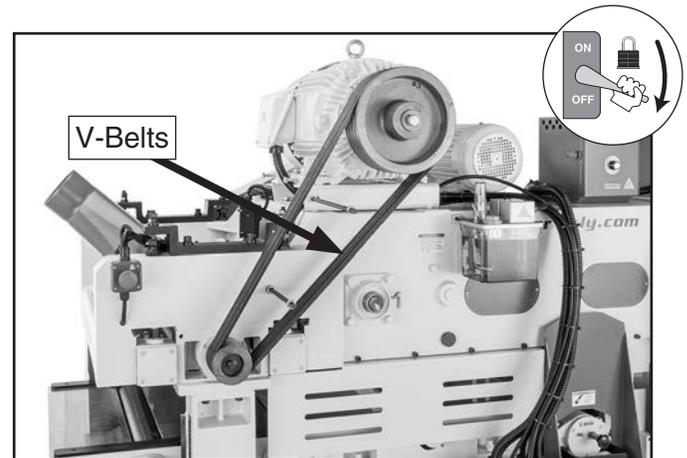

Figure 91. Upper cutterhead belt cover removed.
2. Remove upper cutterhead belt cover (see **Figure 91**).